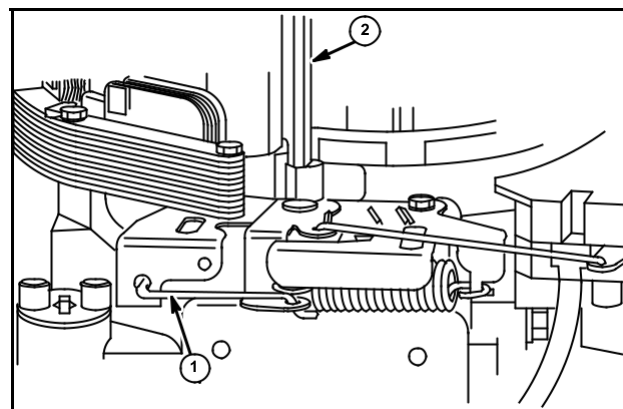

Fig. 121
4. On old style brackets, install brake on stationary and movable posts, then use tool #19229 (2) to bend retainer tang over band brake loop, Fig. 121.
1. Place bayonet end of Band Brake Adjusting Gauge, Tool #19256 (1), in control lever, Fig. 121.